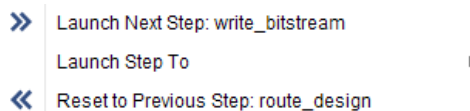

Figure 2-13: **Popup Menu in Design Runs Window**
1. Right-click a run in the **Design Runs** window and select **Launch Next Step: <Step>** or **Launch Step To** from the popup menu shown in Figure 2-13.